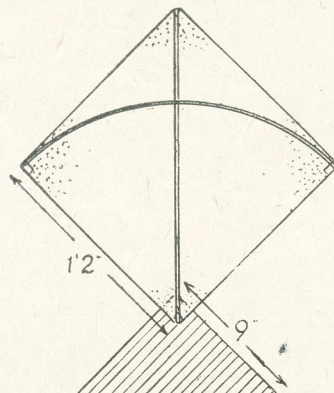
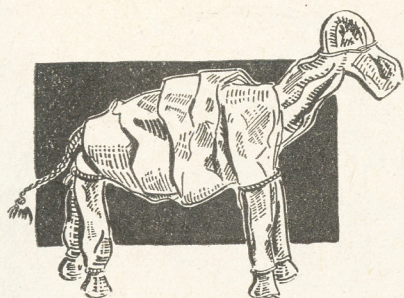

Fig. 3
Fig. 5—The novel animal completed
A pattern of kite, called the 'Indian' is drawn at Fig. 3. As this style of kite requires no tail, but depends on a fin instead for stability, it should prove interesting, both to make and fly. The backbone is a length of similar section
**C**ONSIDERABLE fun at practically no cost can be had by making weird 'animals' out of rolled-up newspapers. The curious creature shown at Fig. 5 might be something from prehistoric times. Here is how to make it.
Double up one roll and lay the other behind it as in Fig. 3. Wrap the 'arms' round the 'body', as in Fig. 4. You can now bend these arms . . . or is it legs? . . . down and tie them together, each pair, just under the body. This will prevent them spreading out. This string can be seen in Fig. 5, which also shows how the head is shaped by tying a string round.